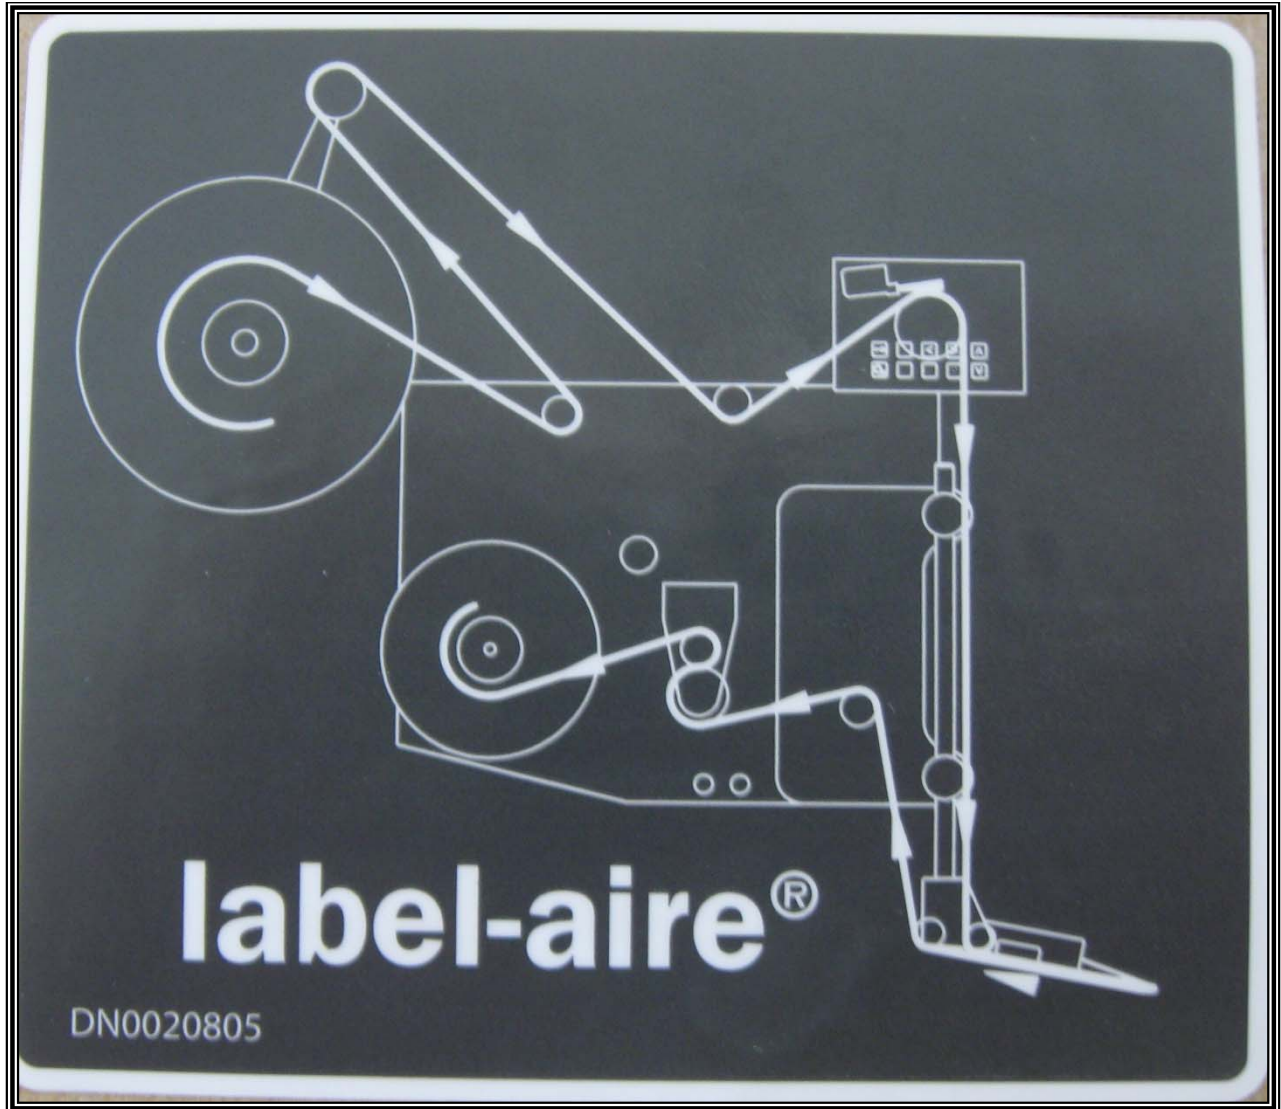

Figure 35 Threading Diagram (Right Hand)
6. Thread the web through the machine as shown in Figure 35 or Figure 36. Make sure to thread the label liner through the label sensor.